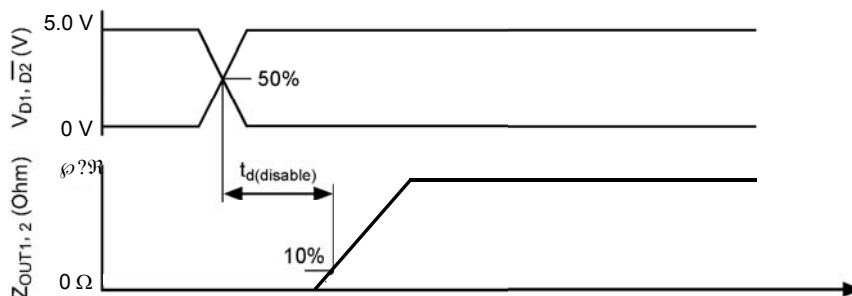

Figure 5. Disable Delay Time
25. Disable Delay Time is the time duration from the midpoint of the D (disable) input signal to 10% of the output tri-state response. See Figure 5, page 9.